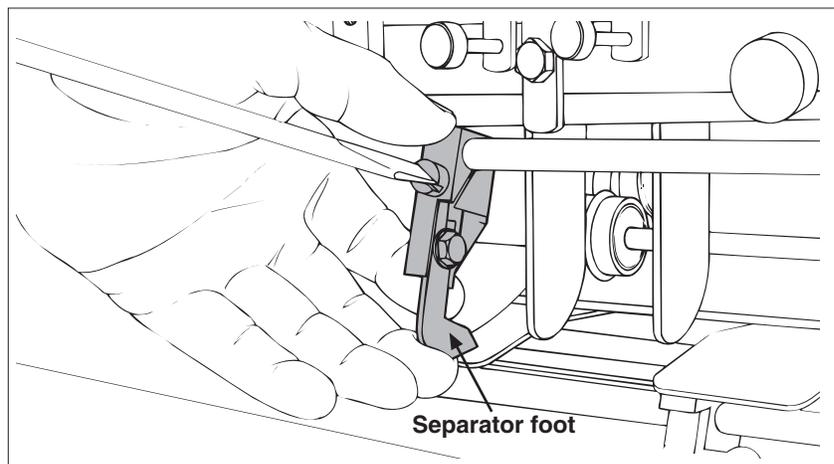

Figure 7. Repositioning Separator Foot at Front of Inserter
- With a screwdriver, loosen the inserter separator foot and tilt away slightly from insert station assembly (opposite feeder) so the foot does not interfere with material being fed (Figure 7).